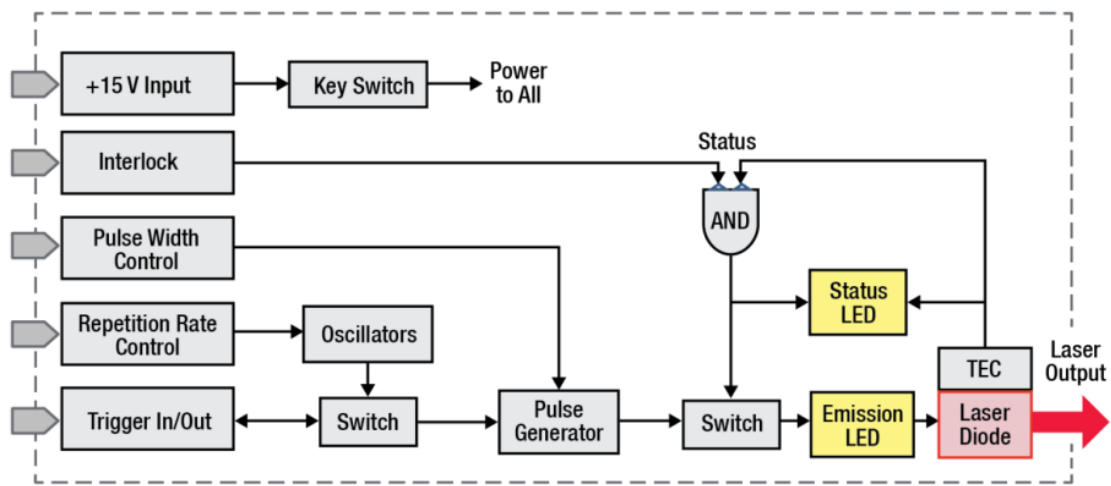

Figure 3 Block Diagram of the GSL Series Laser Head
- The block diagram in Figure 3 depicts the internal architecture of the laser head, which contains all of the pulsing drive electronics, safety interlocks, trigger circuits, and the temperature stabilization system. The multicolored LED indicators are designed to be visible through most laser safety glasses. The Status LED blinks during the 30 – 60 s warm up and then turns off once temperature stability is achieved. Additional Status LED indications are summarized in Section 4.6. The Emission LED is active four seconds before laser emission and stays active in any state where laser emission is possible.